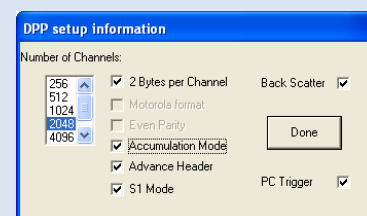

Figure 3 Standard Settings
*Instrument Setup* allows the user to reset basic instrument settings. Standard settings for the Tracer III-V+, Tracer III-SD, and Tracer IV-SD are shown in Figure 3.